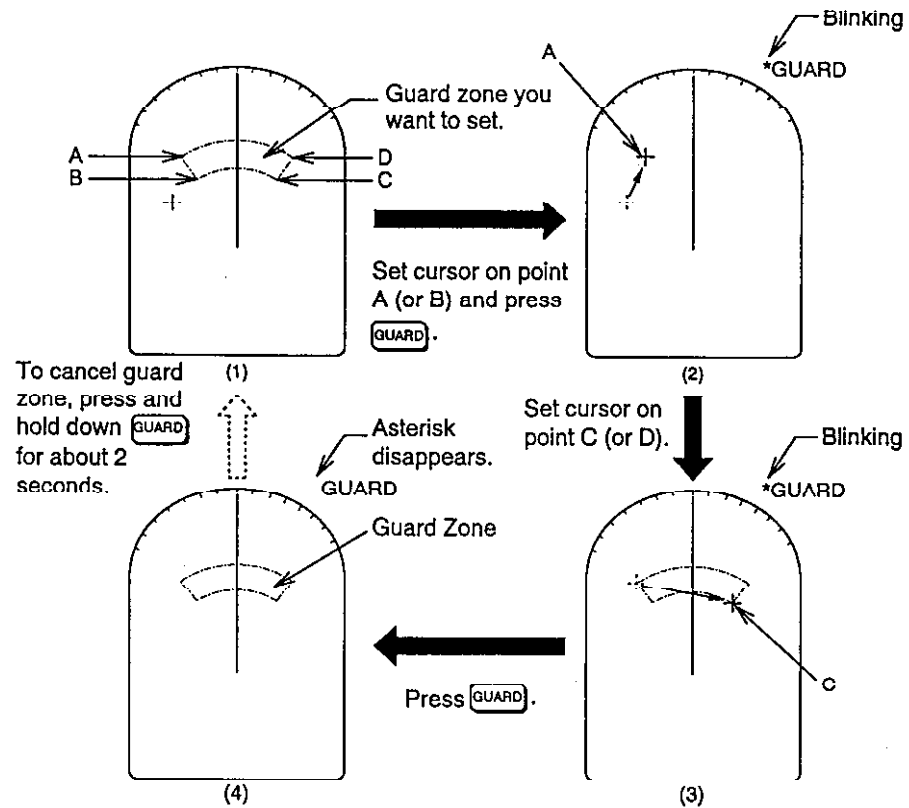

Figure 2-16 How to set the guard zone
- 1) Mentally create the guard zone you want to display. See Figure 2-16 (1).
- 2) Press the arrow keys to set cursor on top (bottom) left edge of the guard zone. Press the **GUARD** key. “*GUARD,” with asterisk blinking, appears at the top right-hand corner of the display. See Figure 2-16 (2). (The asterisk indicates the guard zone is partially set.)
- 3) Press the arrow keys to set cursor on bottom (top) right edge of the guard zone. See Figure 2-16 (3).
- 4) Press the **GUARD** key again. The asterisk disappears. See Figure 2-16 (4).